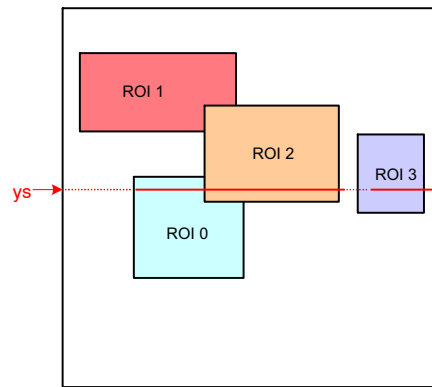

Figure 27. Scanning the Image Array with Four Windows
Figure 27 illustrates a practical example of a configuration with four windows. The current position of the read pointer (ys) is indicated by a red line crossing the image array. For this position of the read pointer, three windows need to be read out. The initial start position for the x-kernel pointer is the x-start configuration of ROI0. Kernels are scanned up to the ROI2 x-end position. From there, the x-pointer jumps to the next window, which is ROI3 in this illustration. When reaching ROI3's x-end position, the read pointer is incremented to the next line and xs is reinitialized to the starting position of ROI0.
- The read pointer is not necessarily incremented by one, but depending on the configuration, it can jump in y-direction. In Figure 27, this is the case when reaching the end of ROI0 where the read pointer jumps to the y-start position of ROI1